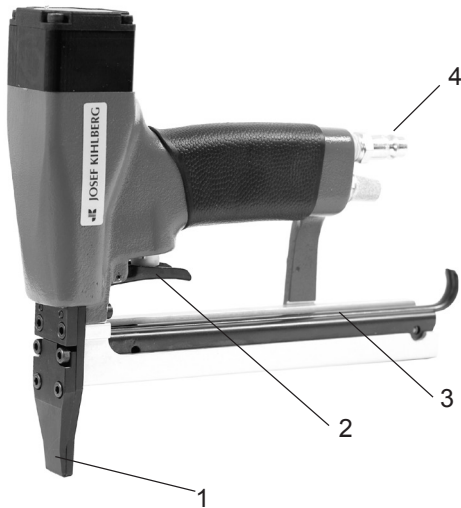

Fig. 1
2. Pull the trigger (fig. 1/2).